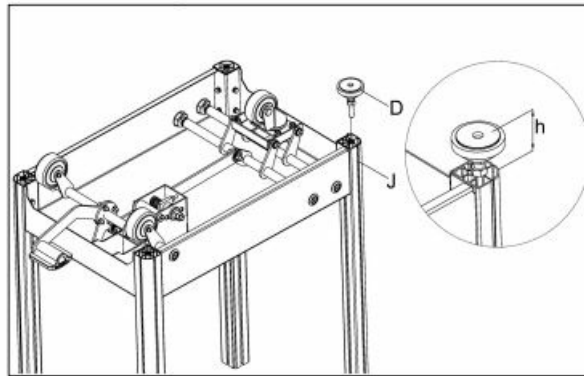

Fig.7
- **d.** Install the foot (D) on the leg (J) and rotate to the minimum or lowest height (h) as indicated in Fig.7. Repeat this step to install the remaining three (D) as shown in Fig.7.